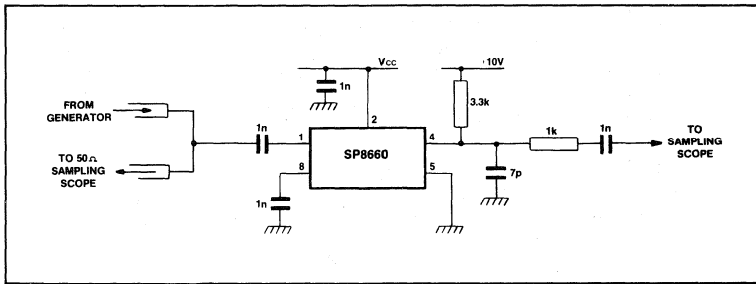

Fig.5 Test circuit
6. The rise time of the open collector output waveform is directly proportional to the load capacitance and load resistor value. Therefore the load capacitance should be minimised and the load resistor kept to a minimum compatible with system power requirements. In the test configuration of Fig. 5, the output rise time is approximately 20ns and fall time is 10ns typically.